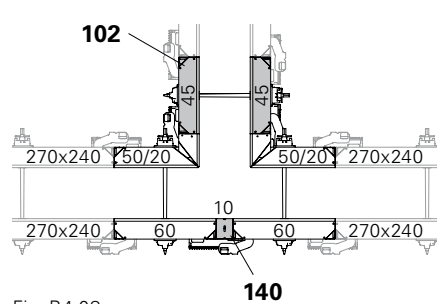

Fig. B4.08
Max. panel width at the T-junction between corner and subsequent panel is 45 cm – MX 270 x 45 (102). (Fig. B4.08)